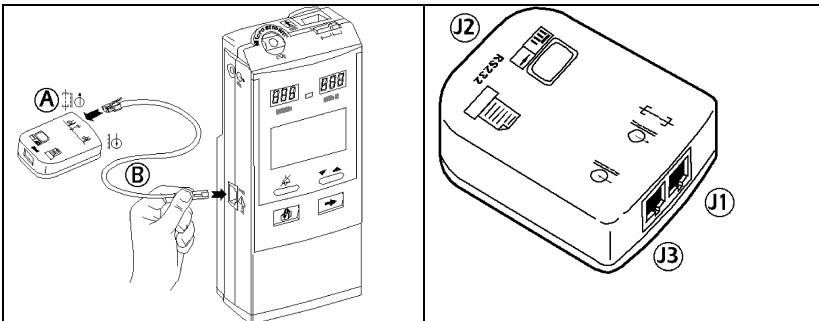

Figure 3. Communication Adapter to Monitor Connection
1. Insert the monitor cable (B) into the monitor port, as seen in Figure 3. Communication Adapter to Monitor Connection, below.
2. Insert the other end of the cable (A) into the Communication Adapter output port (J1), as seen in Figure 3. Communication Adapter to Monitor Connection, below.